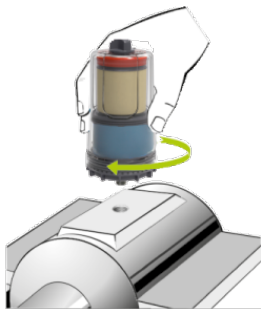

Fig. 15.
- Prefill the lube point, and the lines if necessary, with lubricant „Fig. 15.“.